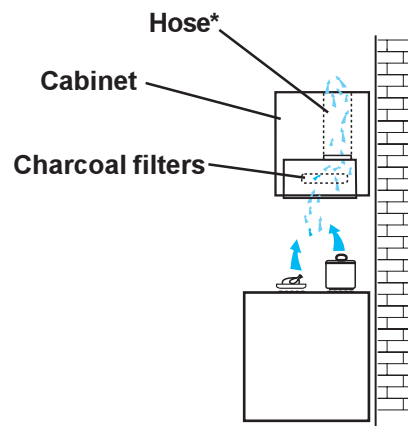

Fig. 2 * The hose is not supplied and must be purchased separately.
- The air is filtered through charcoal filters and returned to the kitchen. **Fig. 2**.